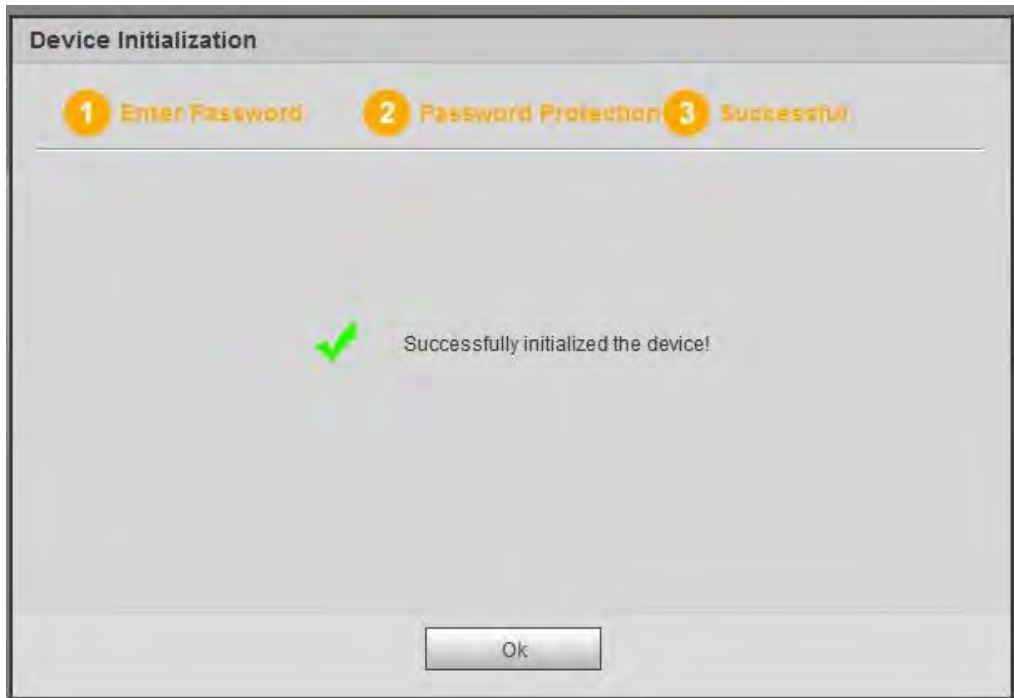

Figure 5-3
Step 6 Click OK to complete the device initialization setup. See Figure 5-3.
Step 1 Open browser and go to the device login interface. See Figure 5-3.